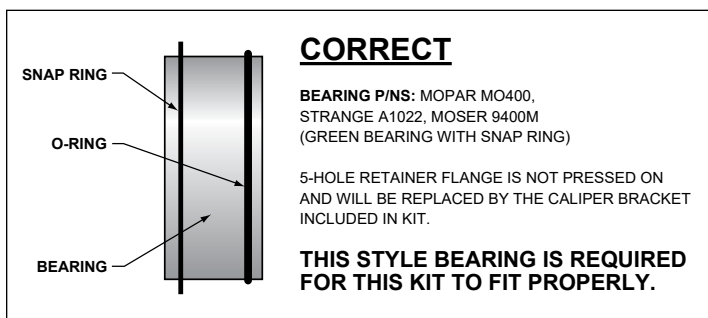

Figure 1. Snap Ring Bearing Configuration
- It is important to verify which bearing you have. There are two types of “Green Bearings” being supplied by axle manufacturers, each one requires a specific Wilwood rear disc brake kit for proper installation. Your setup should look like Figure 1, otherwise you have the wrong kit.
- Determine that the appropriate snap ring style Green bearing has been installed on the axle, as shown in Figure 1.